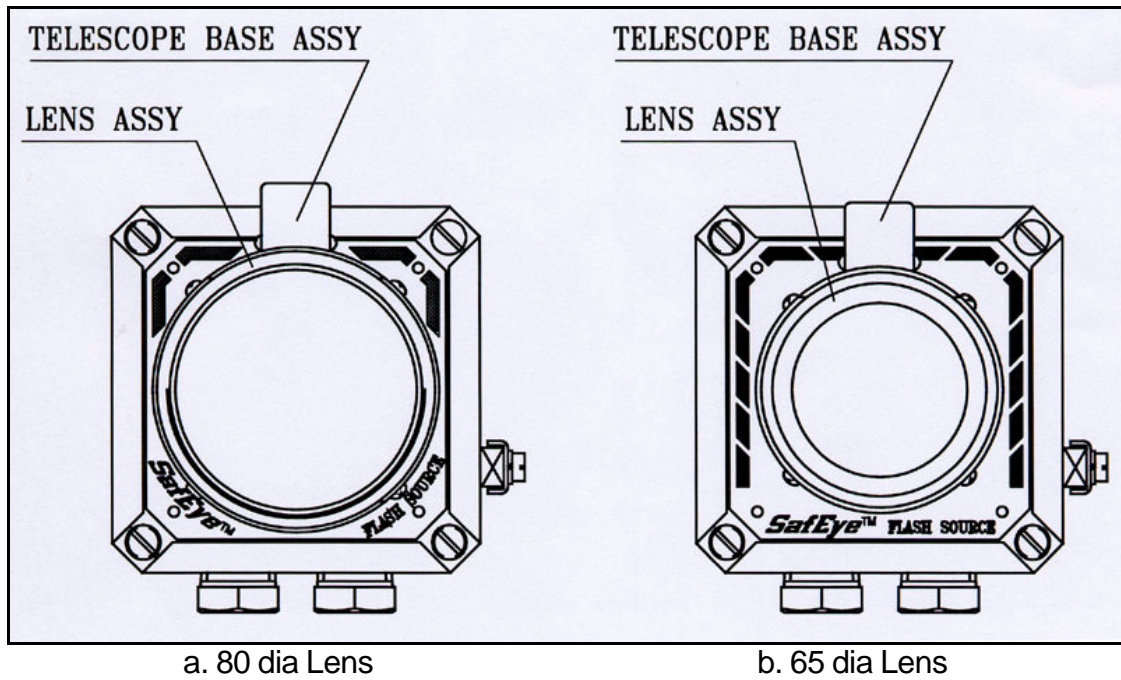

Figure 2: Flash Source – Lens Type
2. 65 dia lens type, model OPS-FI1x (Figure 2)
3. 80 dia lens type, model OPS-FI2x and model OP-SFI3x (Figure 2)